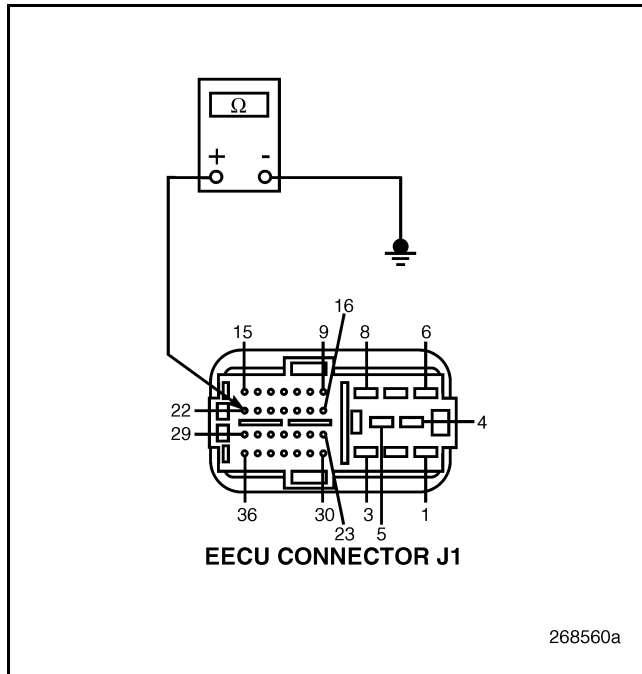

Figure 676
4. Check for continuity between EECU harness connector J1 pin 22 and a good ground (see Figure 676).